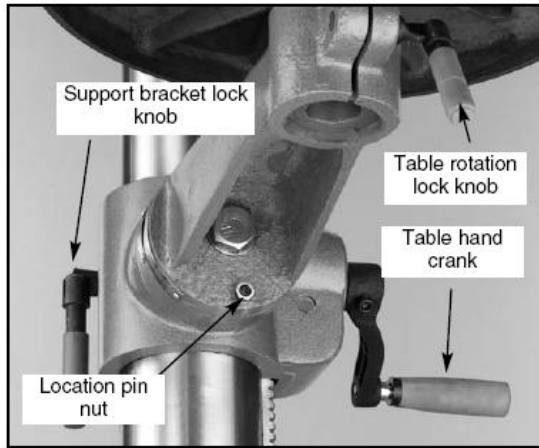

Figure 20
1. Loosen the support bracket lock knob. Turn the table hand crank to lift or lower the table as shown in **Figure 20**.
1. Turn the nut indicated by the arrow in **Figure 20**, in a clockwise direction. This will draw the location pin out of the casting. Once loose, pull the pin and nut out, and set it in a safe place until needed.